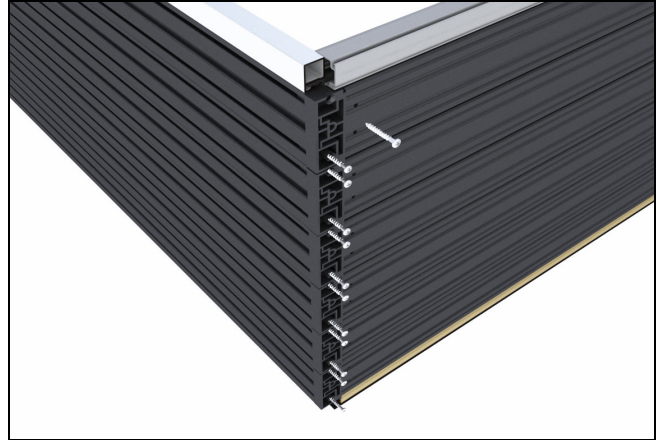

Figure 61
5. Align side jamb to sill by sliding corner keys into sill. Fasten side jamb and sill through corner keys using two #8 x 1 3/4" pan head screws per key. See figure 61.